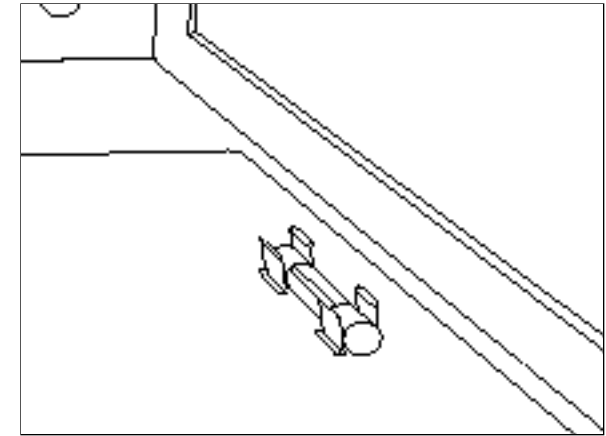

Figure 4 - Fuse location.
Plug the Detachable Power Cord into this socket (see Figure 4). The Pre 1P is factory set for the correct operating voltage for the area in which it is sold (see shipping box for voltage setting). If a different operating voltage is required, please contact an authorized Sonic Frontiers or Anthem dealer, distributor or the factory directly.
- The AC power fuse is intact and has not blown. If the fuse has blown, the thin metal conductor will have melted and the glass may appear "smoked". If the fuse has blown, replace with a fuse of the same rating (0.5 Amp/250V fast-blo for 100 to 120 volt countries and .25 Amp/250V fast-blo for 220 to 240 volt countries). (See Figure 4)